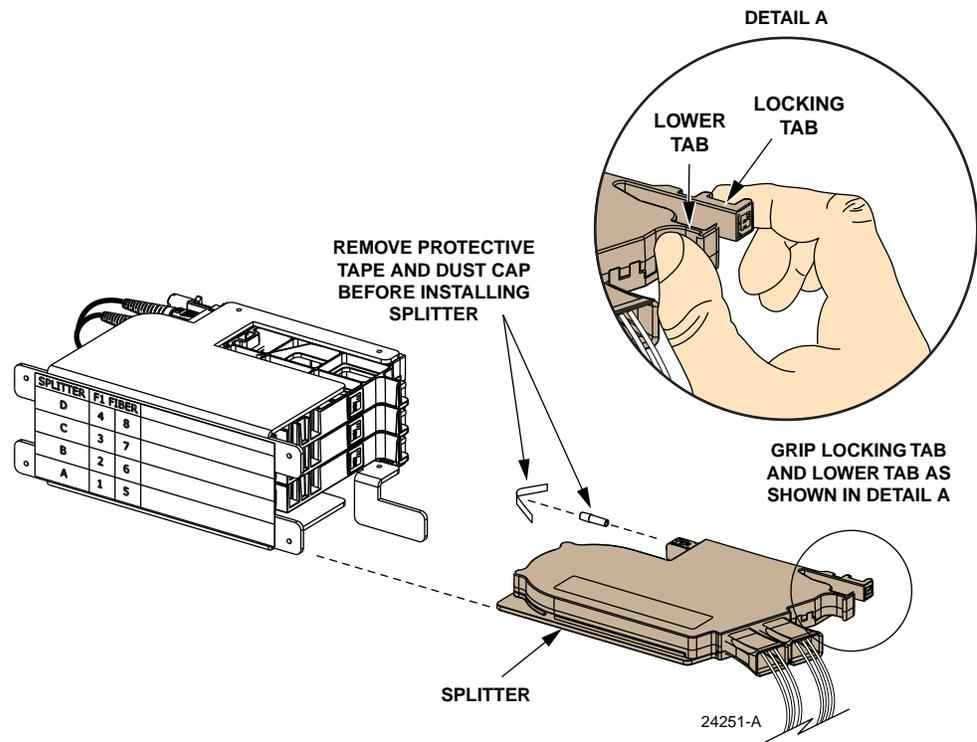

Figure 55. Splitter Installation
7. Remove the protective tape and dust cap from the splitter connector as shown in Figure 55.
9. Grasp the splitter using thumb and forefinger (see Figure 55) and gently squeeze the locking tab against the lower tab.